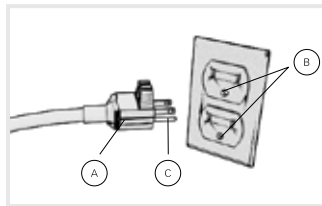
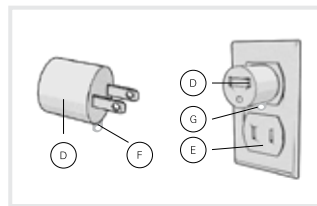

Fig. 1
Fig. 2
WARNING: Improper connection of the equipment-grounding conductor can result in the risk of electric shock. Check with a qualified electrician or service person if you are in doubt as to whether the outlet is properly grounded. Do not modify the plug provided with the appliance - if it will not fit the outlet, have a proper outlet installed by a qualified electrician. This appliance is for use on a nominal 120-volt circuit and has a grounding plug that looks like the plug (A) illustrated in Fig. 1. A temporary adapter (D) may be used to connect this plug to a 2-pole receptacle (E) if a properly grounded outlet (B) can be installed by a qualified electrician (Fig. 1). The temporary adapter should be used only until a properly grounded outlet (B) can be installed by a qualified electrician (Fig. 1). The green colored rigid ear, lug, or the like (F) extending from the adapter must be connected to a permanent ground (G) such as a properly grounded outlet box cover (Fig. 2). Whenever the adapter is used, it must be held in place by a metal screw. NOTE: In Canada, the use of a temporary adapter is not permitted by the Canadian Electrical Code.